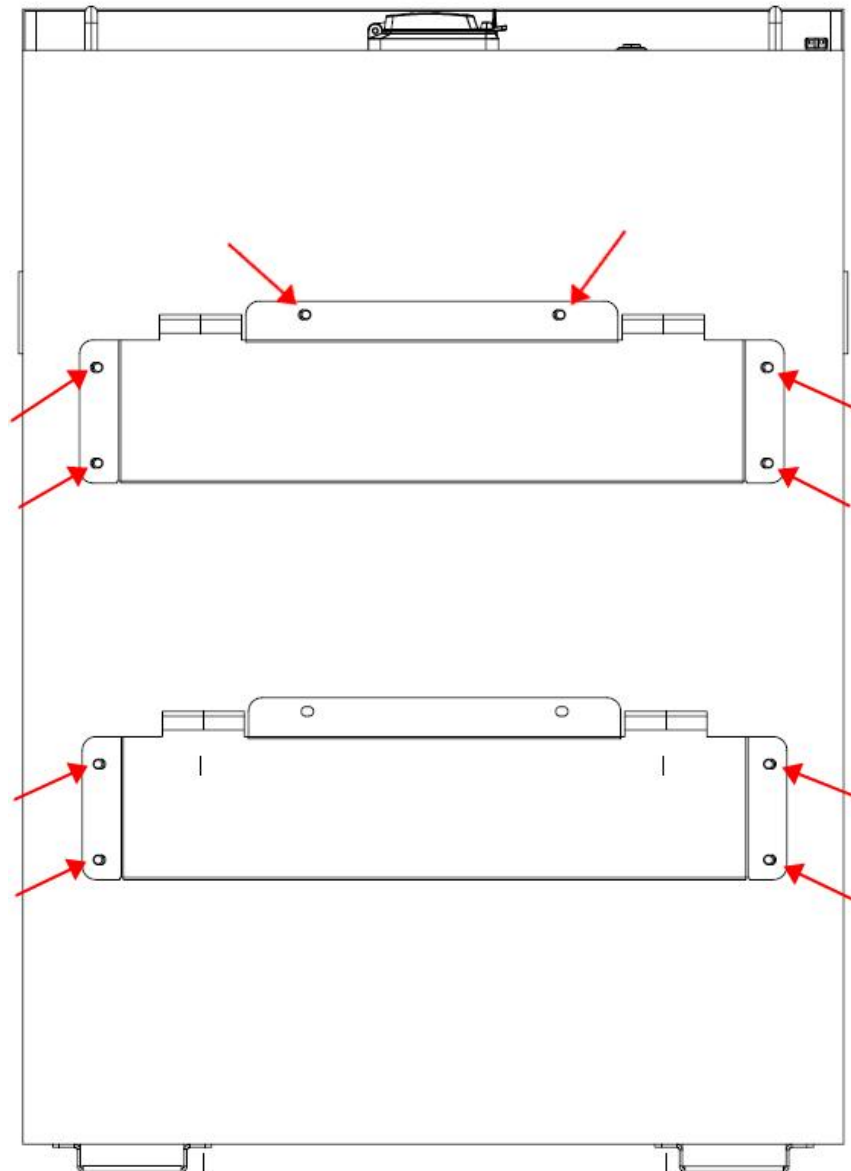
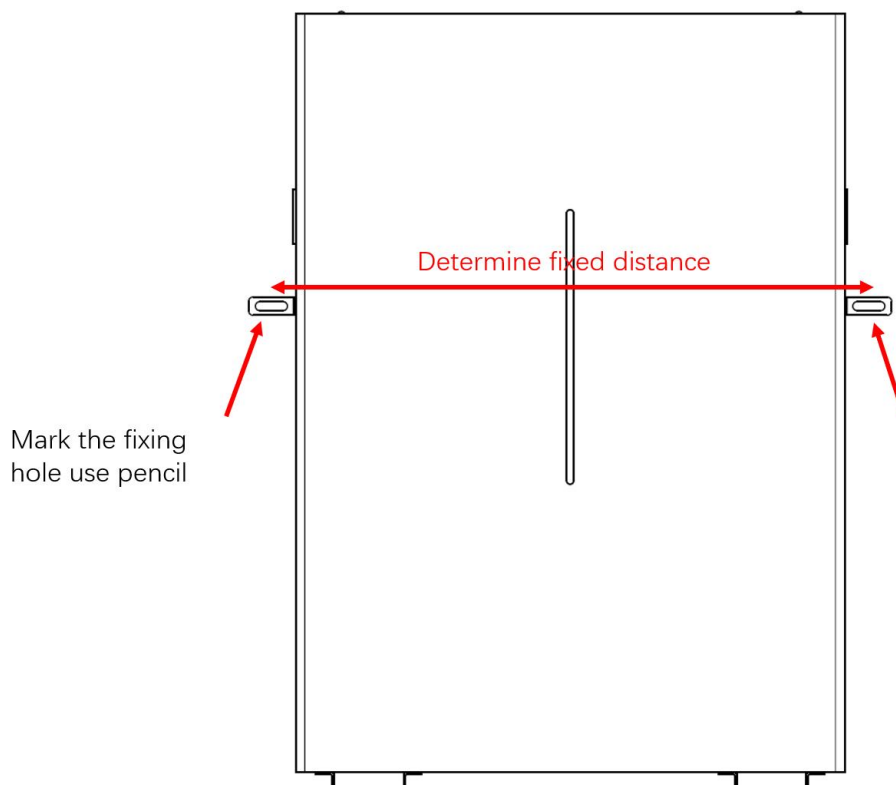

Figure 5-2
Figure 5-5
d) Use the 10 screws of M6 to fix the backplane to the back of the battery as shown in Figure 5-2.
b) Stand the battery on the side of the wall, mark the location of the fixing hole, Choose the recommend drill head (as shown in below picture) to drill 2 holes on the wall, 100-110mm deep, as shown in Figure 5-2 and Figure 5-5.
c) Use a proper hammer to fix the battery to the wall, fit the expansion bolt into the holes, as shown in Figure 5-2.